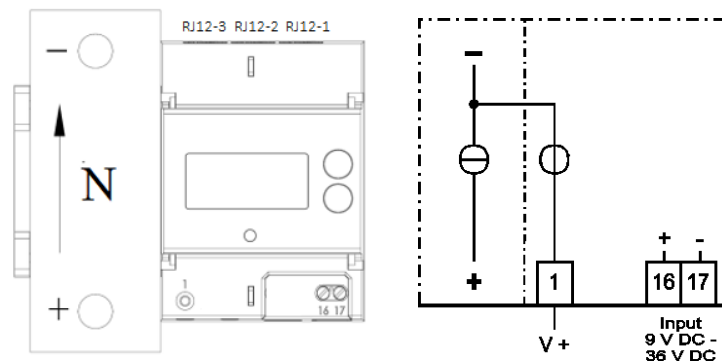

Figure 5: Pinout of the GSH01.
- The connection has to be made according to Figure 5. The current-carrying lines are connected to the shunt of the meter using M8 or M10 nut screws. In order to prevent damage or corrosion due to a bad connection, a tightening torque of 17.5 to 20 Nm has to be applied.